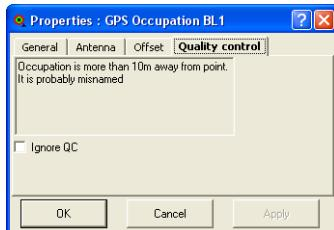

Figure 5-100. Quality Control Properties
- Quality Control* tab contains informational text on selected occupations (marked in red on the views) that did not pass some of the quality control checks (Figure 5-100 on page 5-70). To turn off the feature that marks a point red when it fails some quality control tests, select the *Ignore QC* check box.